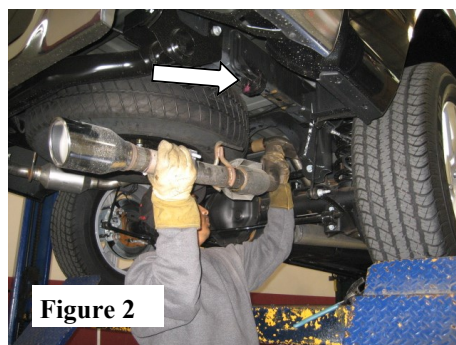

Figure 2
3. Using a muffler stand or an additional person to hold the tail pipe up in place, remove the hanger from the rubber isolator and then remove the tail pipe from the vehicle as shown. (See fig.2)